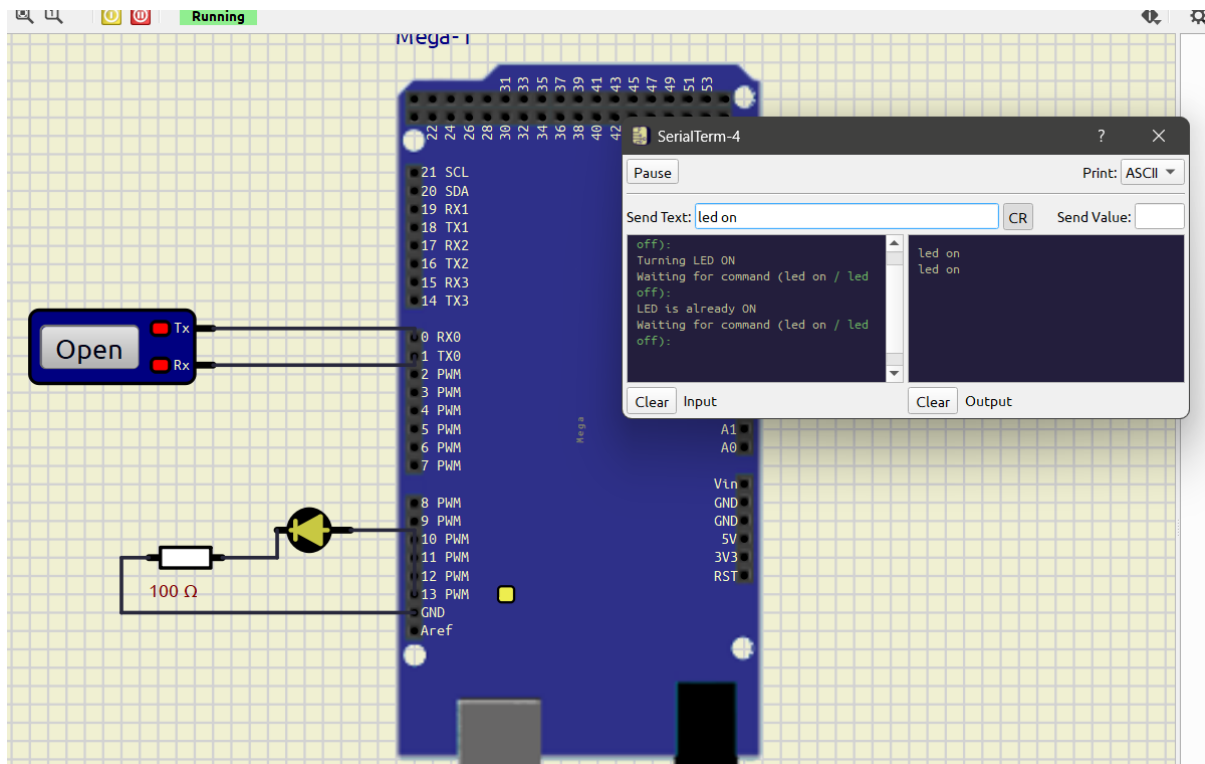

Figure 9: Serial monitor showing that LED is already on
4. Figure 9 shows the serial monitor indicating that the LED is already on when the "led on" command is sent again.